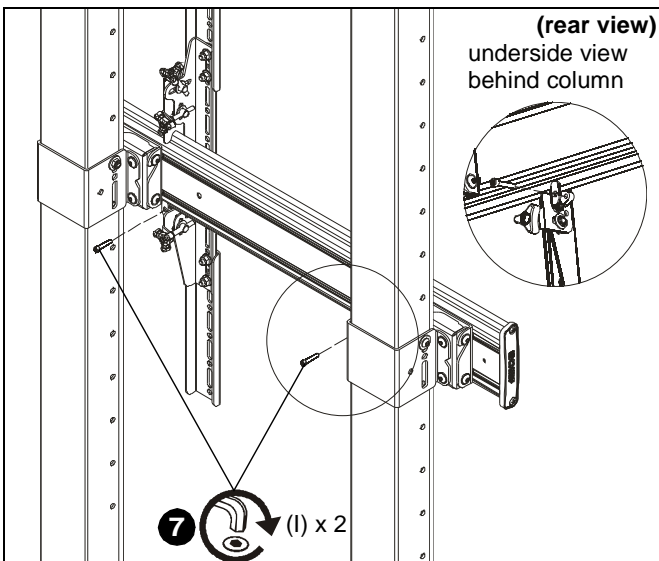

Figure 11
6. Hang interface brackets (S and T) to single display rail (R). (See Figure 11)
7. Use 1/4-20 x 1 1/4" socket head cap screws (I) to secure interface brackets (S and T) to rails for each display. Screws must engage through both holes to be fully secured. (See Figure 11)